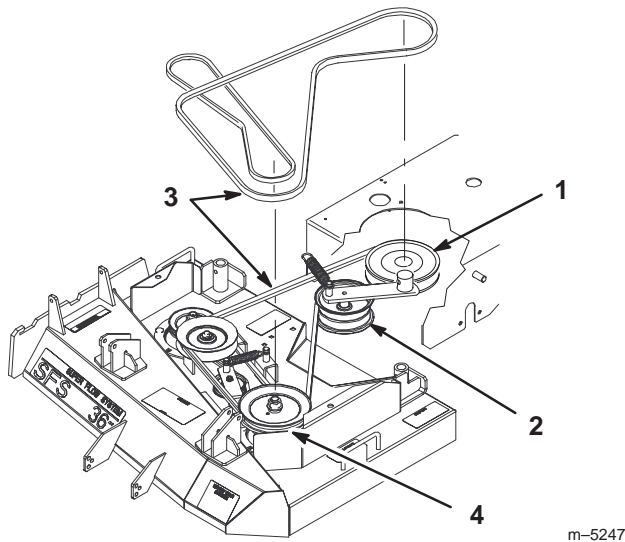

Figure 61
5. Remove the idler spring from idler arm. Remove the drive belt from the PTO engagement pulley and the center spindle pulley (Fig. 61).
6. Remove the worn drive belt (Fig. 61).
7. Install the new drive belt onto the PTO engagement pulley and the top groove of the center spindle pulley (Fig. 61).
8. Install belt onto idler pulley and then install idler spring (Fig. 61).
9. Adjust PTO drive belt guides an 1/8 in. from belt (Fig. 61).